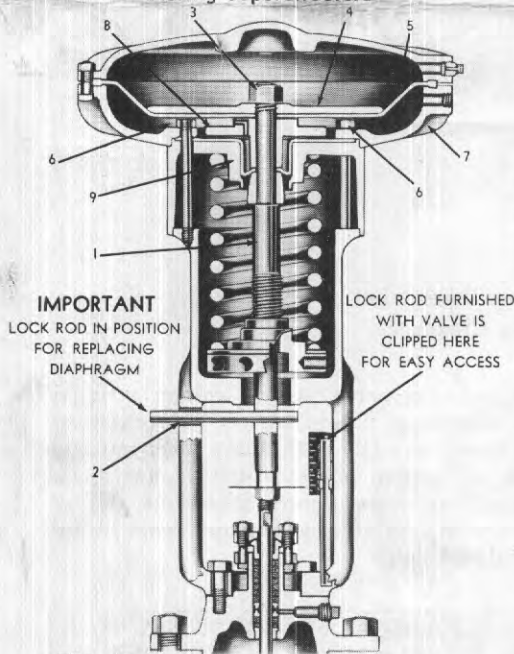

FIG. 7
*Reverse Acting Superstructure* -- See Fig. 7. Follow the same procedure to remove diaphragm cover. Then lock upper stem (1) by inserting lock rod through hole in yoke (2) and hole in lower end of upper stem to prevent damage to upper stem seal (9) when replacing diaphragm or seal. Remove self-locking nut (3), diaphragm disc (4) and diaphragm (5). Then remove spacer stud nuts (6), diaphragm base (7), the collar (8) on top of seal, and stem seal (9). Examine seal (replace if necessary). Reinstall seal and diaphragm base. Before tightening spacer stud nuts, drop collar in position on top of seal. Tighten spacer stud nuts. Install diaphragm with hole in center around raised face on end of collar. Install diaphragm disc, be sure that lower end of upper stem is locked with rod, and then tighten self-locking nut. Replace diaphragm cover and remove rod.
17. When it is desired to reverse the action of single seated diaphragm control valves, it is only necessary to replace the superstructure above the bonnet with a superstructure of opposite action. A single "D" in the control valve class indicates superstructure is reverse acting (air applied on top of diaphragm) i.e. Class D-2. When control valve class contains a double "DD" the superstructure is reverse acting (air is applied to underside of diaphragm) i.e. Class DD-2. See Fig. 7. To change valve action loosen stem lock nut under indicator disc. Remove capscrews securing superstructure to bonnet, turn superstructure in a counter clockwise direction until upper stem is clear of lower stem. Install superstructure of opposite action by reversing above procedure and following steps 13 through 15 for reassembling and adjusting valve travel.